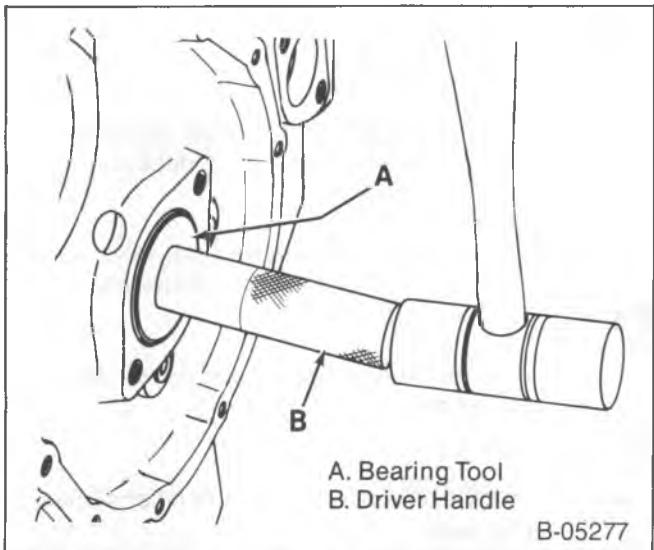

Figure 18—Replacing the Outer Camshaft Bearings
3. Front camshaft bearing. Use J 6098-01 and J 6098-10 (figure 18).
4. Rear camshaft bearing, as described in step 3. Use the driver handle and bearing tool J 6098-12 (figure 18).
- 1. Rear camshaft bearing. Drive the bearing into place using the driver handle and J 6098-12 (figure 18).
2. Front camshaft bearing. Drive the bearing into place with the driver handle and J 6098-11 (figure 18).